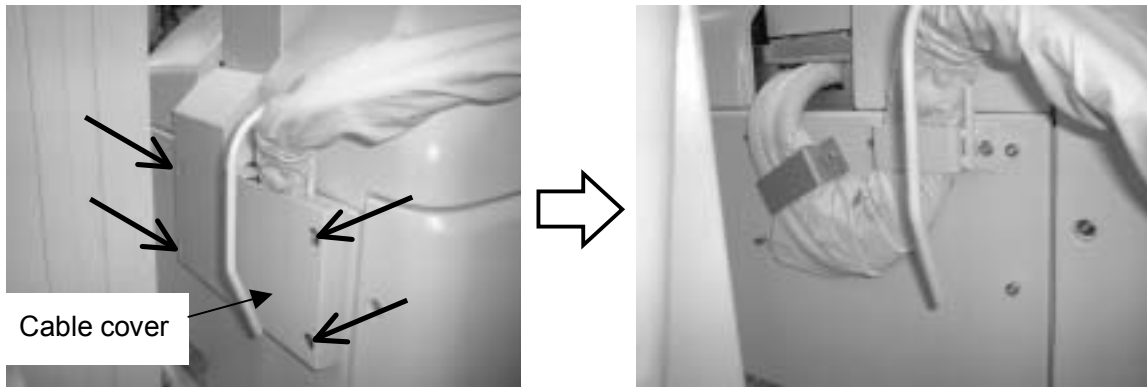

Fig. 3-11 Screw cramp positions of the cable cover
1. Unscrew the two hexagon socket head cap screws as shown in Fig. 3-11.